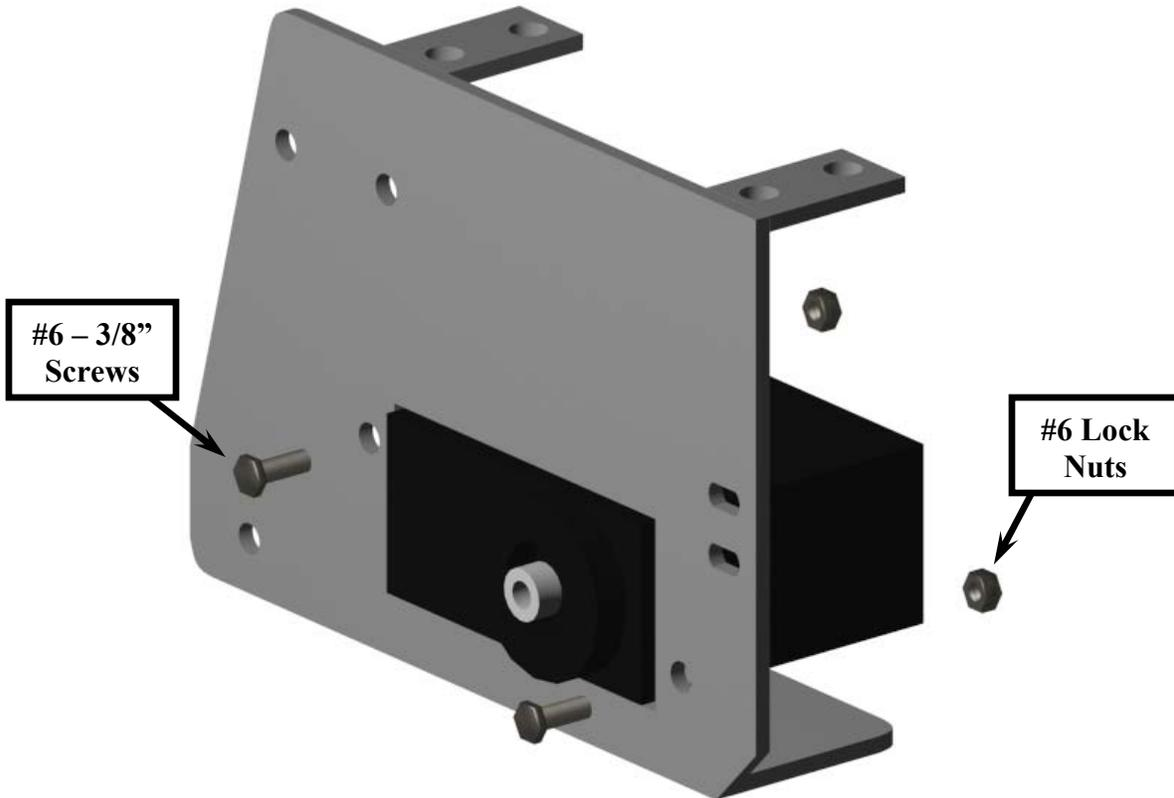

Figure 2: Mounting Servos
1. Install the servo into the rectangular portion of the servo mount. The servo gear head should always be orientated towards the straight end of the servo mount as shown in Figures 2 and 3.
2. Using (2) #6 - 3/8" screws and lock nuts, install the servo to the aluminum servo assembly. Complete this step for all (6) legs of your HexCrawler.